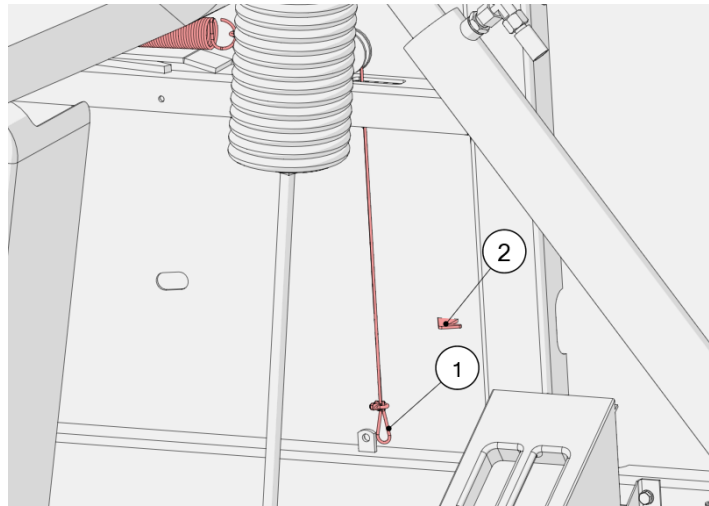

Figure 27. Lock the swing arm
- Lock the swing arm by engaging the cable (1) behind the hook (2), as shown in Figure 27